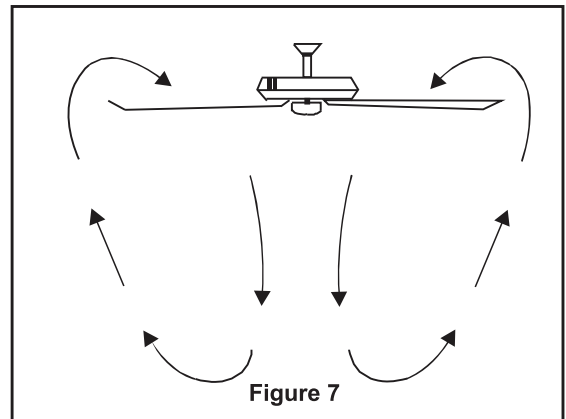

Figure 7
- Warm weather - (Forward) A downward air flow creates a cooling effect as shown in . (Figure 7) This allows you to set your air conditioner on a higher setting without affecting your comfort.